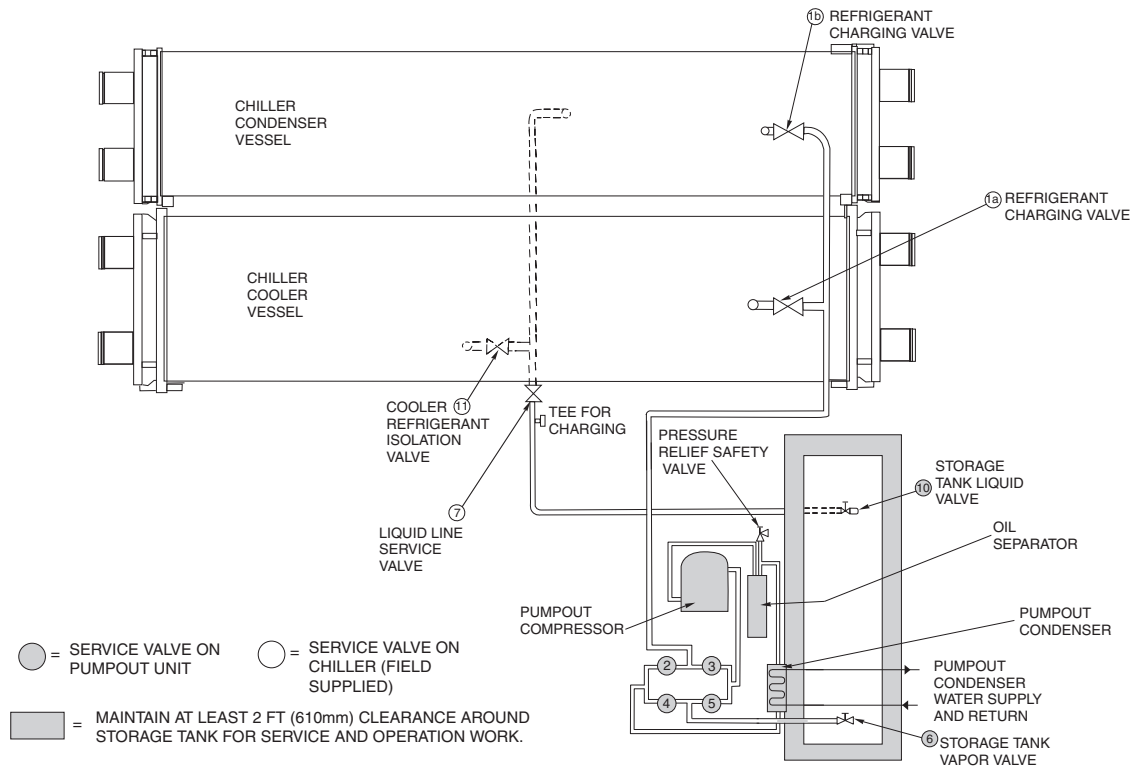

Fig. 43 — Typical Optional Pumpout System Piping Schematic with Storage Tank
4. Once the pressures have equalized, the cooler isolation valve, the condenser isolation valve, and the hot gas isolation valve may now be opened. Refer to Fig. 43 and 44 for the location of the valves.
3. Open valve 4 on the pumpout unit and open valves 1a and 1b on the chiller cooler and condenser, Fig. 43 and 44. Slowly open valve 2 on the pumpout unit to equalize the pressure. This process takes approximately 15 minutes.
If the chiller has been shipped with a holding charge, the refrigerant is added through the pumpout charging connection (Fig. 43 and 44, valve 1b). First evacuate the nitrogen holding charge from the chiller vessels. Charge the refrigerant as a gas until the system pressure exceeds 35 psig (241 kPa) for HFC-134a. After the chiller is beyond this pressure the refrigerant should be charged as a liquid until all the recommended refrigerant charge has been added. The charging valve (Fig. 43 and 44, valve 7) can be used to charge liquid to the cooler if the cooler isolation valve (11) is present and is closed. Do not charge liquid through the linear float to the condenser.